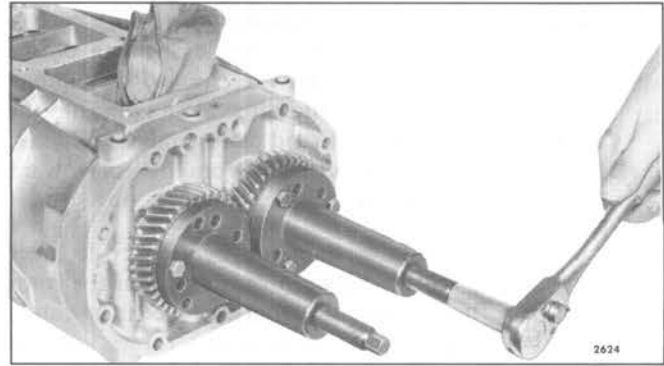

Fig. 7 – Removing Blower Gears with Tool J 6270-31
2. Remove the timing gears with pullers J 6270-1 (Fig. 7). Both gears must be pulled at the same time as follows:
- b. Turn the two puller screws uniformly clockwise and withdraw the gears from the rotor shafts (Fig. 7).